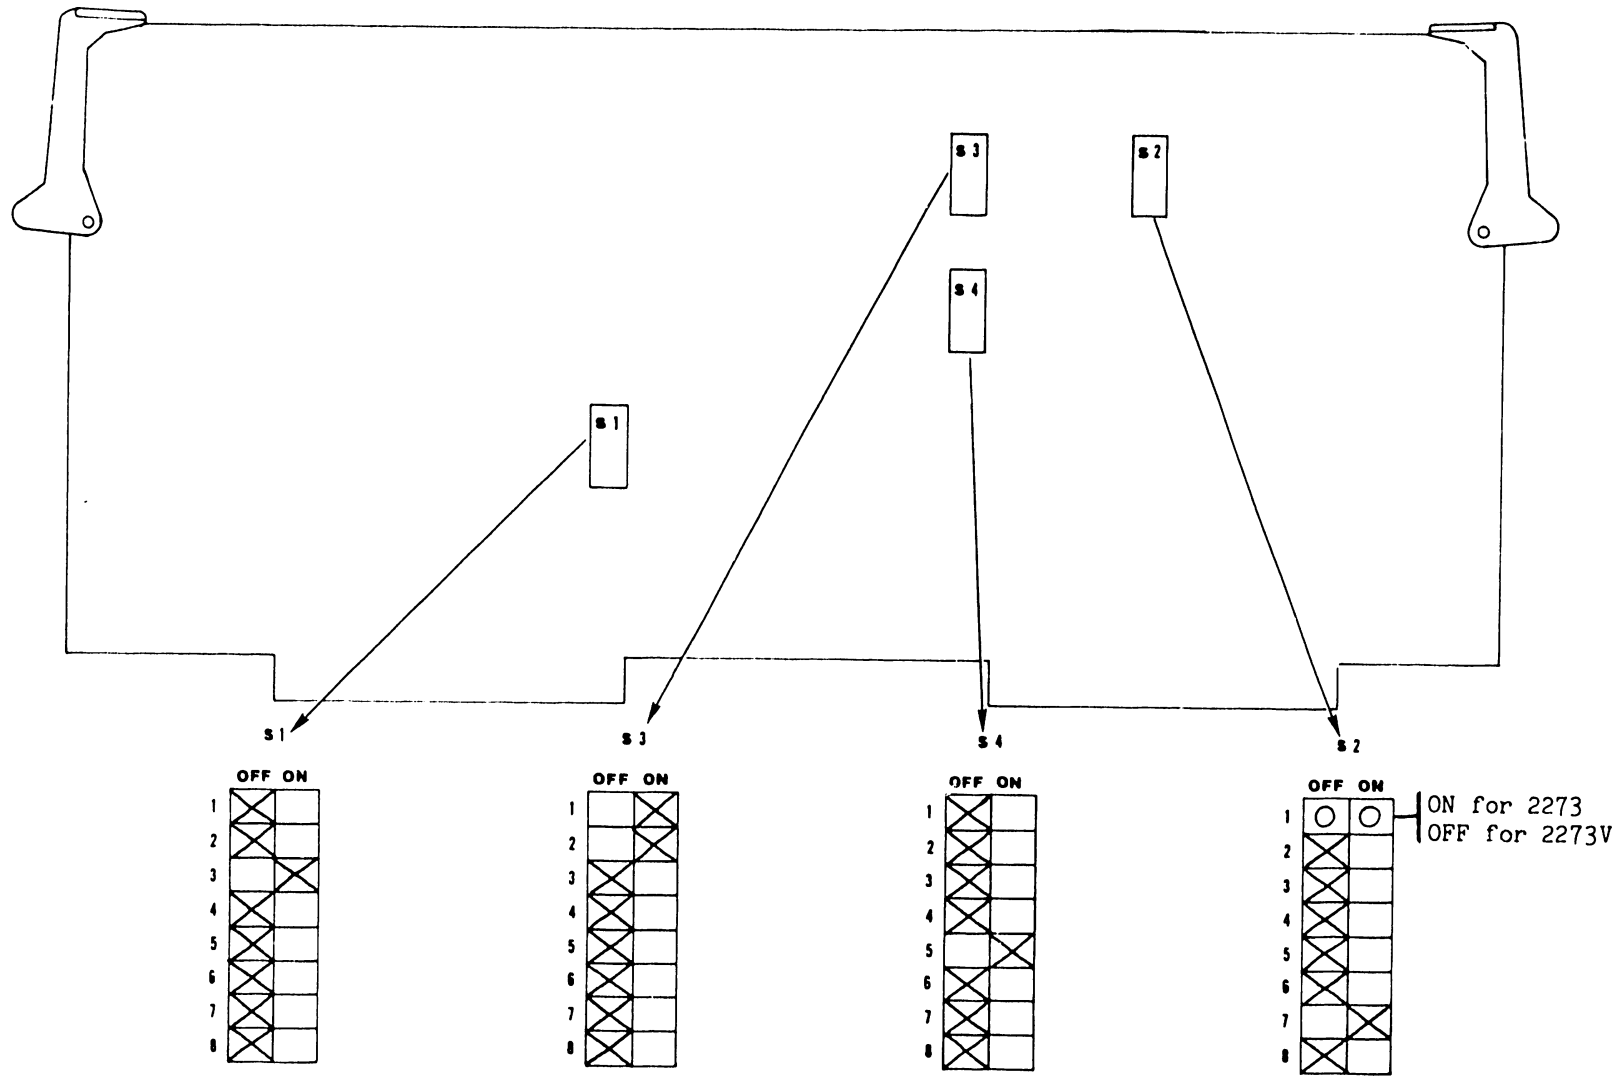

FIGURE 5. PARALLEL PRINTER CONFIGURATION SWITCH SETTINGS
- B. There are four configuration switches (bank-type) on the Centronics Interface Board. Ensure switch settings are correct when replacing the Interface Board. 300 lpm units and 600 lpm units have identical switch settings. FIGURE 5 shows the correct switch settings for the parallel version of the Band Printer; FIGURE 6 shows the correct switch settings for the serial version of the Band Printer. An explanation of the significance of each individual switch follows.